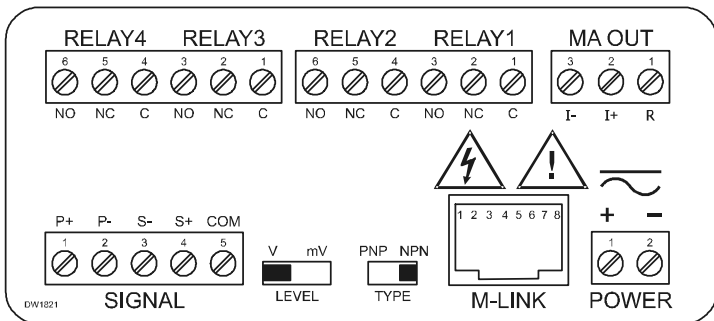

Figure 6: Connector Labeling for Fully Loaded PD6300
Power connections are made to a two-terminal connector labeled POWER on Figure 6. The meter will operate regardless of DC polarity connection. The + and - symbols are only a suggested wiring convention.
Signal connections are made to a five-terminal connector labeled SIGNAL on Figure 6. The COM (common) terminal is the return for the input signals.
Serial communications connection is made to an RJ45 connector labeled M-LINK on Figure 6. For interfacing to the ProVu[®], use the PDA1232 for RS-232, the PDA1485 for RS-422/485, or the PDA8008 for USB. The same port is used for interfacing with all expansion modules (e.g. external relays, digital I/O).
Relay connections are made to two six-terminal connectors labeled RELAY1 – RELAY4 on Figure 6. Each relay's C terminal is common only to the normally open (NO) and normally closed (NC) contacts of the corresponding relay. The relays' C terminals should not be confused with the COM (common) terminal of the INPUT SIGNAL connector.